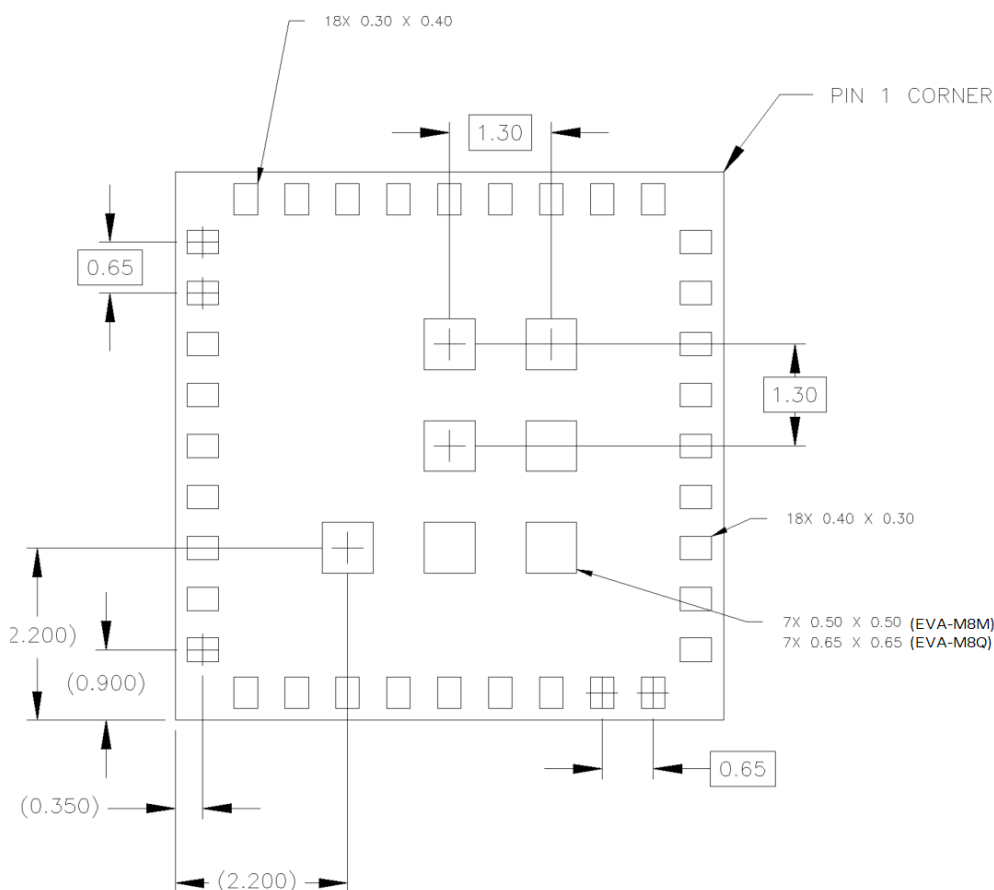

Figure 5: Recommended footprint (bottom view)
- The footprint for EVA-8M/M8M and EVA-M8Q differs in terms of ground pad size as shown in Figure 5. As the EVA-8M/M8M footprint can be used also for EVA-M8Q, it is recommended to use